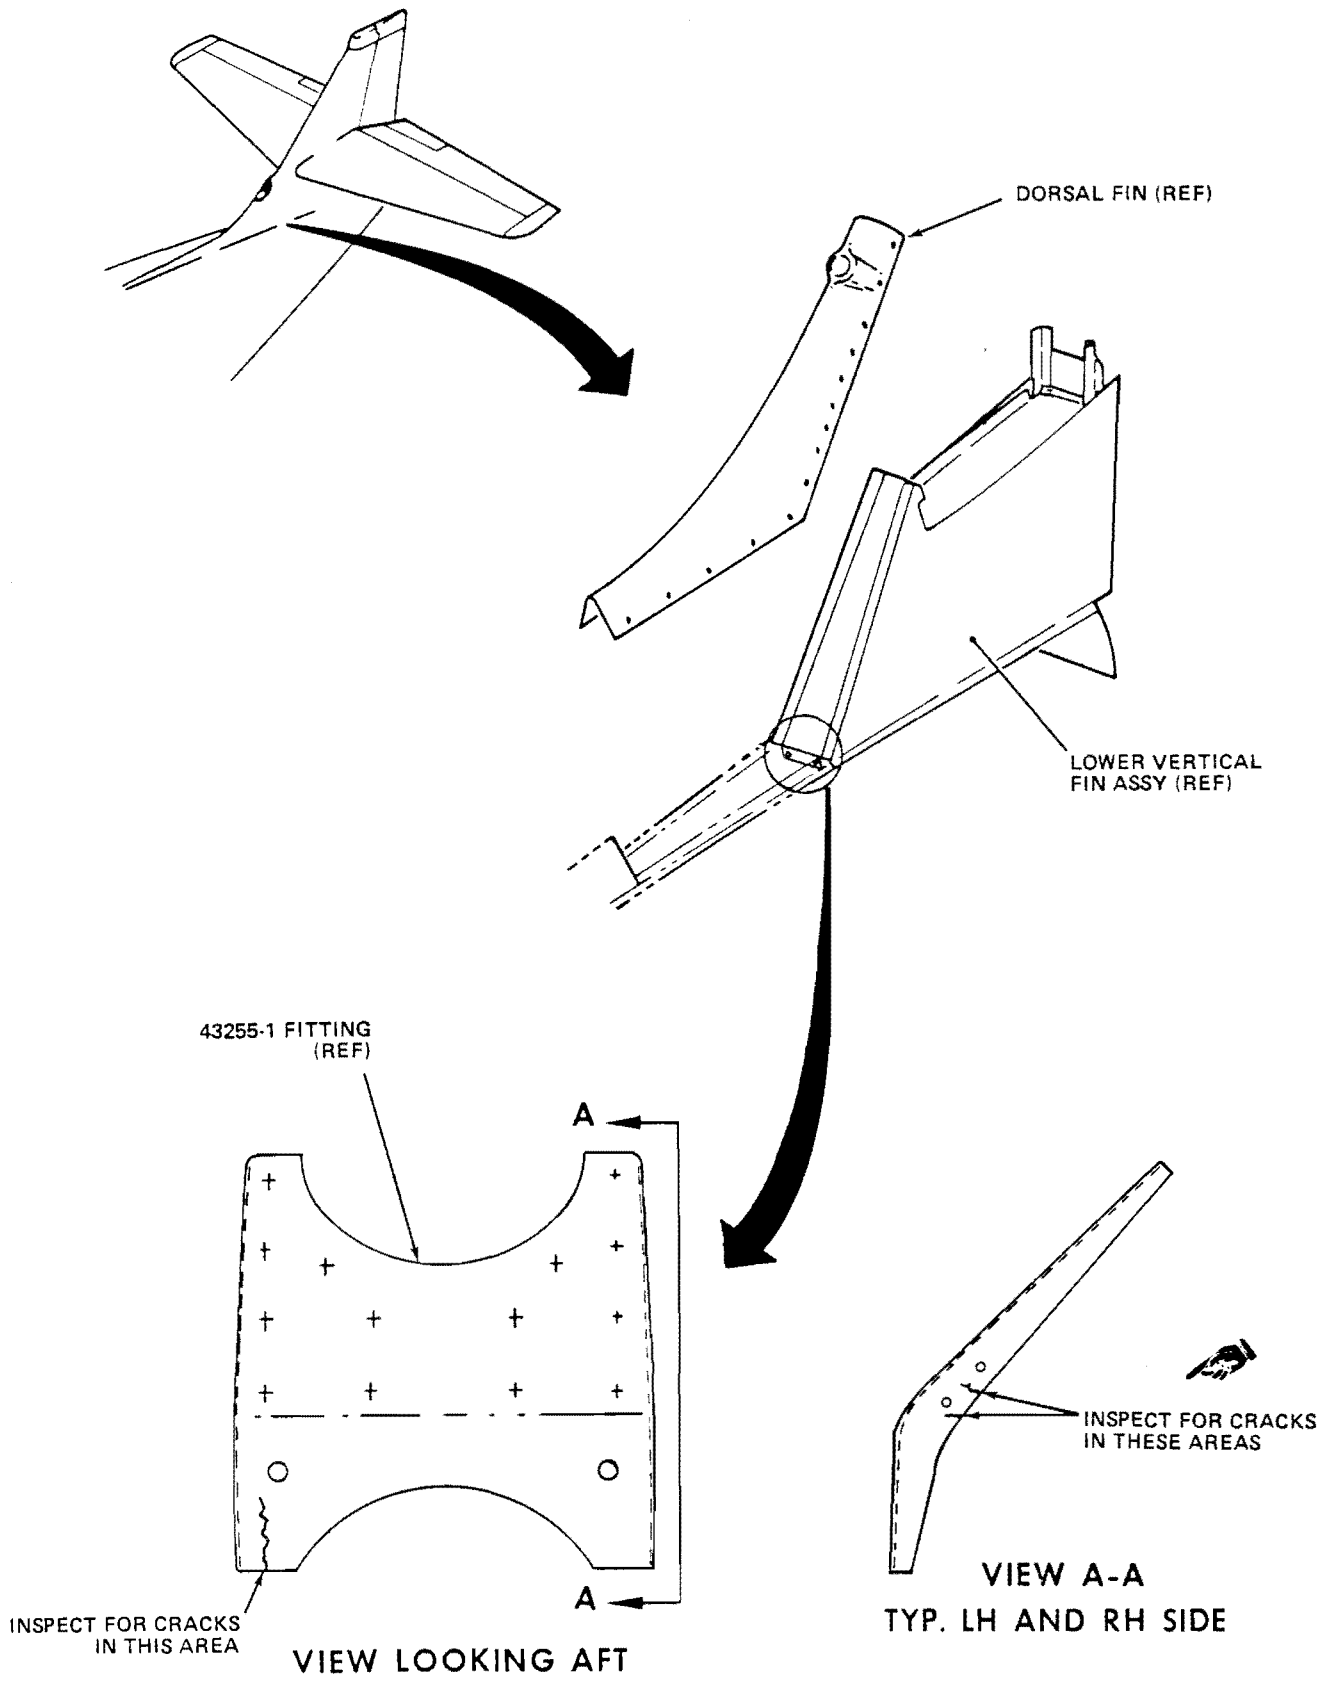

Figure 1.
2. While the tip of horizontal stabilizer is being moved up and down, inspect the forward and aft upper section of the fuselage frame and vertical stabilizer spar attachment structure in the area between the rudder pulley bracket for cracking (refer to Figures 1 and 2) with particular emphasis on: